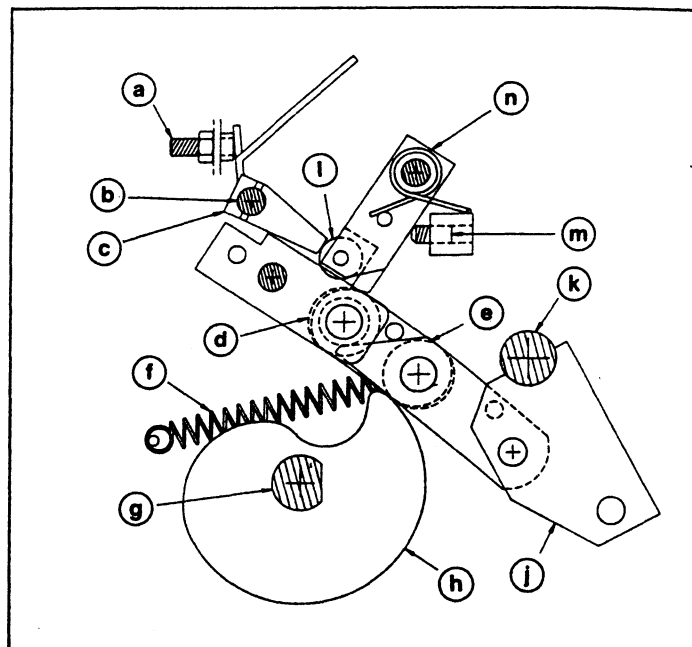

Figure 10. Mechanism and Trip Linkages
In the linkage positions shown in Figures 8B and 8D, the contact loading springs and the main opening springs are both acting to compress the three (3) main mechanism links (Figure 10)